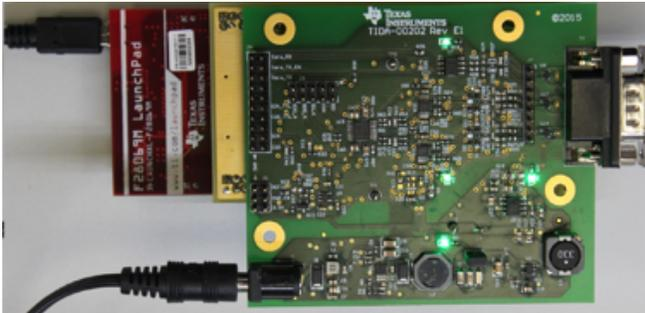

Figure 24. TIDA-00202 Board Mounted on the InstaSPIN-MOTION LaunchPad (Top View)
Prior to working with the TIDA-00202 board, ensure the following default jumper settings are applied. Refer to the board picture in Figure 24.
1. Connect the TIDA-00202 board with the InstaSPIN-MOTION LaunchPad using the proper connections as shown above. Note: For the internal testing, an adapter board has been designed to interface between the TIDA-00202 and the InstaSPIN-MOTION LaunchPad, as shown in Figure 24.